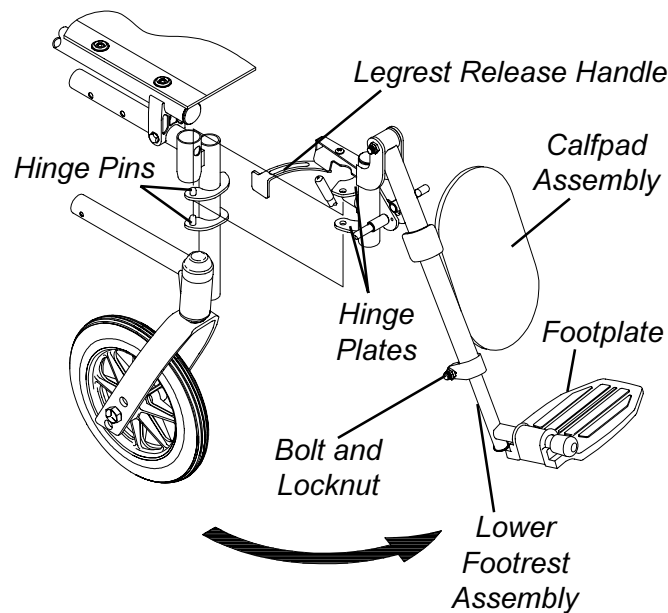

FIGURE 4 - ELEVATING LEGREST INSTALLATION
ELEVATING LEGREST ASSEMBLY INSTALLATION (FIGURE 4)
1. Place legrest assembly on the outside of the wheelchair and install the hinge plates onto the hinge pins on wheelchair frame (FIGURE 4).
2. Rotate legrest assembly toward the inside of the wheelchair until it locks in place (FIGURE 4).